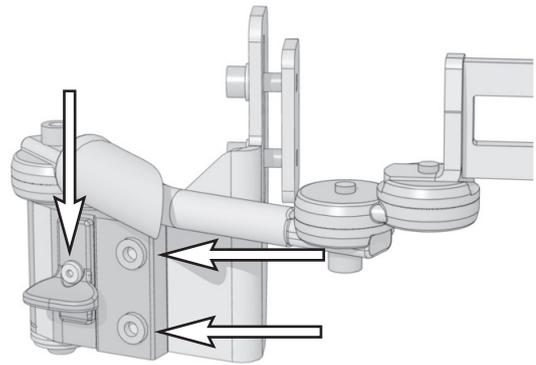

Fig. 17. Remove the bracket and the release button.
1. Remove the ordinary bracket from the Trunk support, it's fitted with two screws. See fig. 17.
2. Remove the release button. See fig. 17.